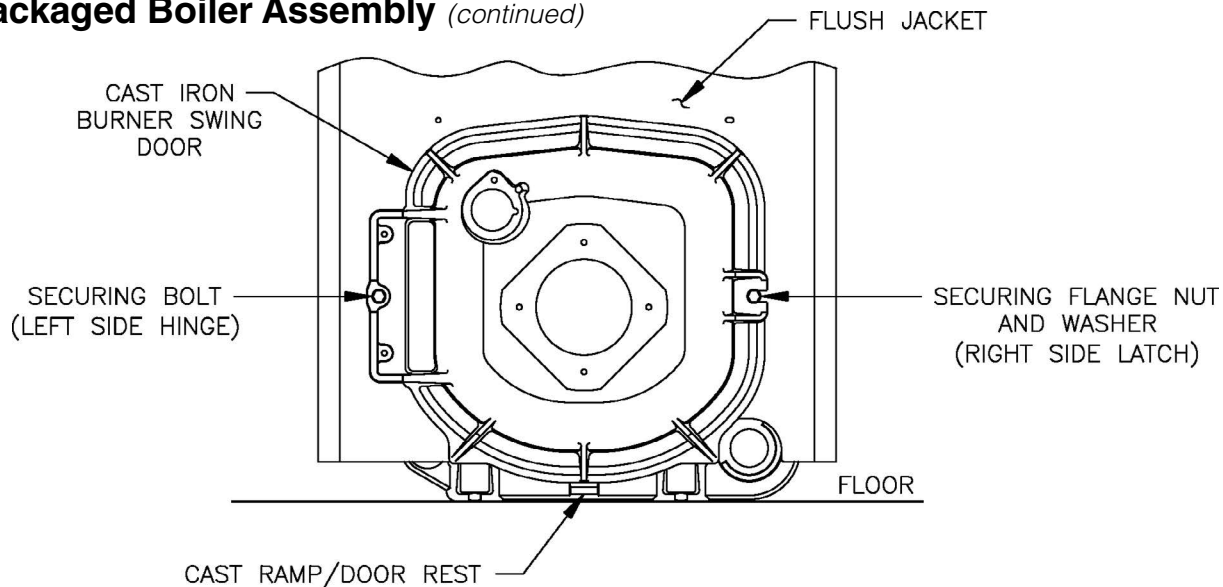

Figure 4-2: Partial Front View - Burner Swing Door Mounted to Boiler - Fully Closed and Secured
4. Use the following procedure to properly close and secure the burner swing door after it has been removed and re-installed for Field Assembly (Knockdown Boiler) or opened for inspection, cleaning or field service (refer to Figures 4-2 and 4-3):
Step 1. Lift the door up onto the built-in cast ramp/door rest (protruding from the bottom of the front section casting - see Figure 4-2), while rotating the articulated hinge and door to the right and engaging the slot (on right side of door) unto the 5/16 in. stud protruding from the front section.
1. **TO OPEN BURNER SWING DOOR** (see Figures 4-2 and 4-3).
3. To close Burner Swing Door (see Figures 4-2 and 4-3):
Step 2. Grasp the door's left side hinge flange in your left hand and place your right hand under the burner air tube to lift upward. Lift the door up unto the built-in cast ramp/door rest (protruding from the bottom of the front section casting - see Figure 4-2), while rotating the articulated hinge and door to the right and engaging the slot (on right side of door) unto the 5/16 in. stud protruding from the front section.